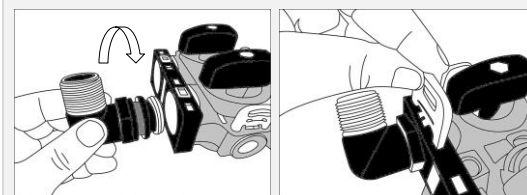

Fig 3
- Note:** To change the connection fitting, simply remove the locking clips by hand and pull the fitting out. Insert new fitting and reinstall locking clip (**fig 3**).